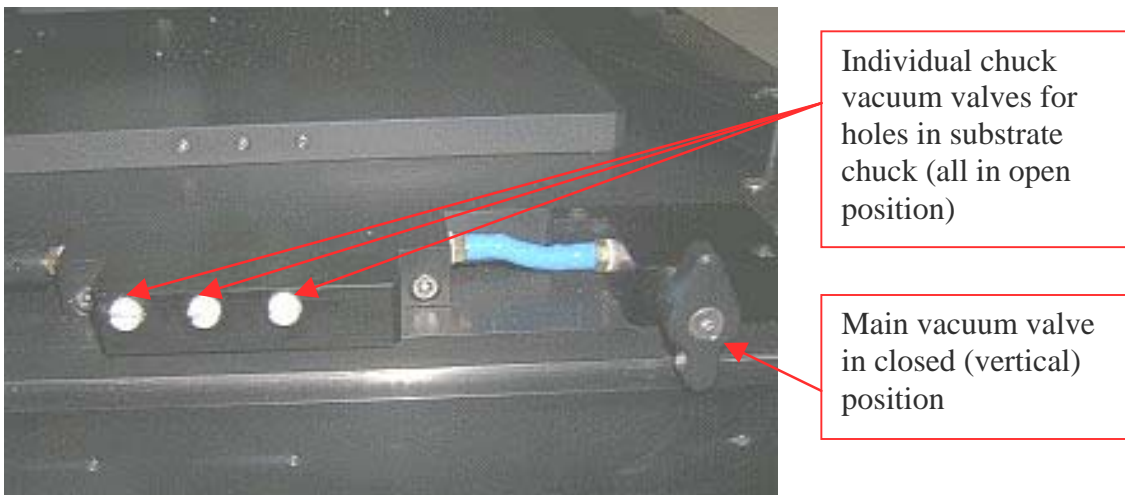

Figure 2-16: Chuck vacuum controls
- ❖ **System:** **Check** that main vacuum valve off (in the vertical position) (figure 2-16).